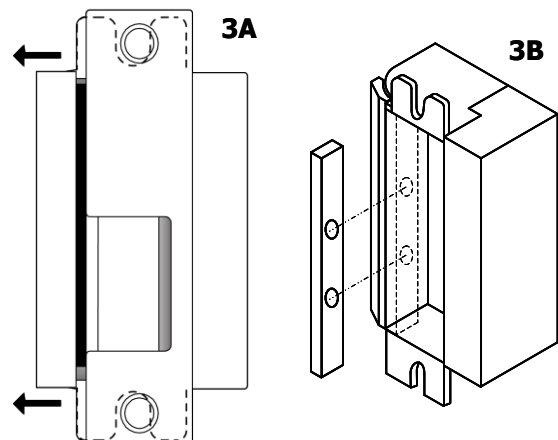

FIG. 4 FRAME PREPARATION – 2930 Electric Strike
2. For proper frame preparation, refer to template drawings, **Fig. 4 & 5, page 4**.